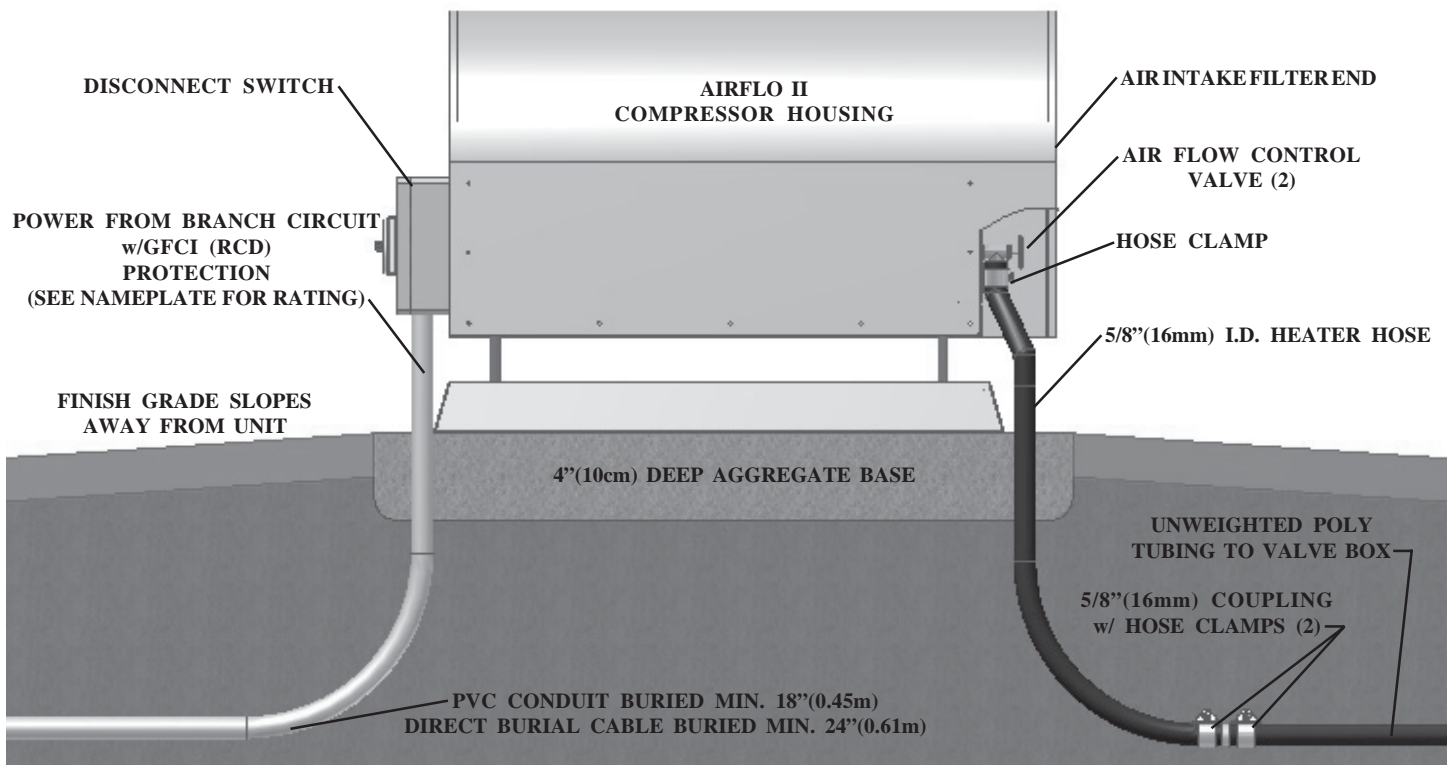

Figure 8a: Breakaway Side View
2. Excavation: The AirFlo II compressor housing unit is pre-mounted on a plastic base that is intended to be set on a level gravel or stone base to provide for drainage and prevent movement (**See Figure 8a**). Dig out an area about 32"(80cm)W x 32"(80cm)L x 4"(10cm)D. Pour the aggregate into the hole allowing it to remain about 1"(2.5cm) higher than the ground surface after compacting the base and ensure the surface is level.
5. Connect the Tubing: For access to the air flow control valves remove the air intake filter cover by removing the 1/4" nut in the center of the cover. Install a 24"(61cm) length of heater hose (pre-cut and included) on to the valve(s) and secure using the hose clamp(s) provided (**See Figure 8a**). **It is important not to attach any other type of tubing directly to the compressor, the heat from the compressor will cause a failure.** A minimum of two feet of the high temperature heater hose must be connected between the compressor and the poly tubing. Connect a length of unweighted poly tubing to the heater hose using the brass barbed coupling and two hose clamps. The fittings used to connect to the heater hose must be brass or stainless steel. Use the same procedure to couple to the poly tubing for distances over 100' (47m) to the valve manifold box.